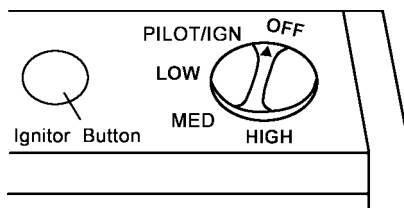

Figure 18 - Control Knob In The OFF Position
3. Push in control knob slightly and turn clockwise to the OFF position (see Figure 18).
5. Push in and turn control knob counterclockwise to PILOT position. Press in control knob for five(5) seconds.